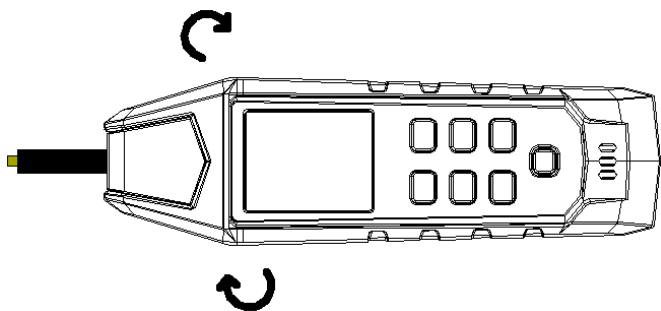
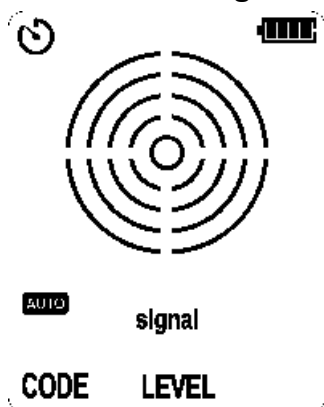

Figure 7.1.3a Align to the sensor slot
Figure 7.1.3b No Signal Detected
3. To obtain a best effect when tracking energized conductor, please align the dot screen printing (on the top of the sensor) to the direction of the conductor, as shown in Figure 7.1.3a. If not aligned properly, signal may not be detected or the code may be wrong. To check the direction of the cable, please rotate the receiver for 90 degrees regularly, as shown in Figures 7.1.3b and 7.1.3c. The signal strength reaches its maximum when the cable is aligned with the dot screen printing. According to the differences of detected signals, the receiver automatically detects if the cable is energized ("⚡"), which will be displayed on the LCD. No need to perform manual setting.